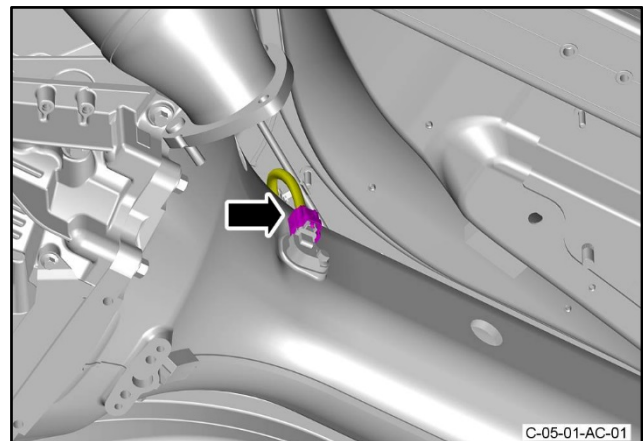

Figure 33
59. Disconnect the electrical connector from the speed sensor for the propeller shaft (refer to Figure 33).